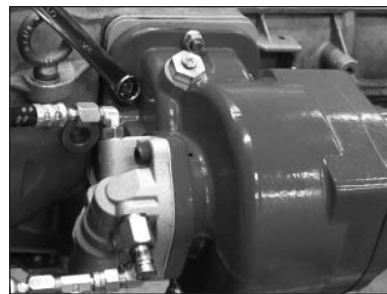

Figure 77
7. Install the PTO over the studs and secure the PTO with the self-locking nuts provided with the PTO (**Fig. 77**).